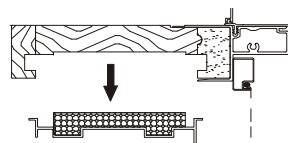

Fig. 3
3. Remove the track from the head jamb along with the foam backer and discard. Fig. 3